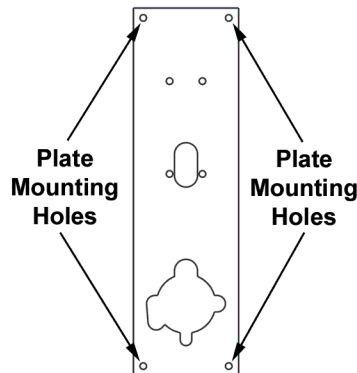

Figure 2-10 – Reader Scar/Push Plate Mounting Holes
- 2.5.1.2.4 While holding the Reader Scar/Push Plate in position, mark the four mounting holes located in the four corners of the Plate (Figure 2-10).